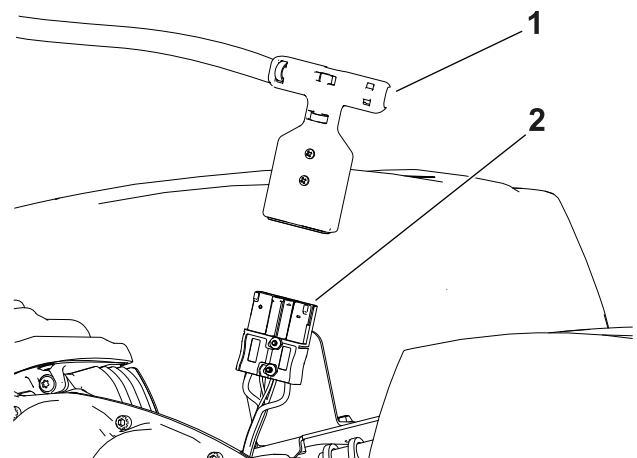

Figure 26
4. Disconnect the T-handle connector from the main wire harness to the main-power-supply connector on the battery base (Figure 26).